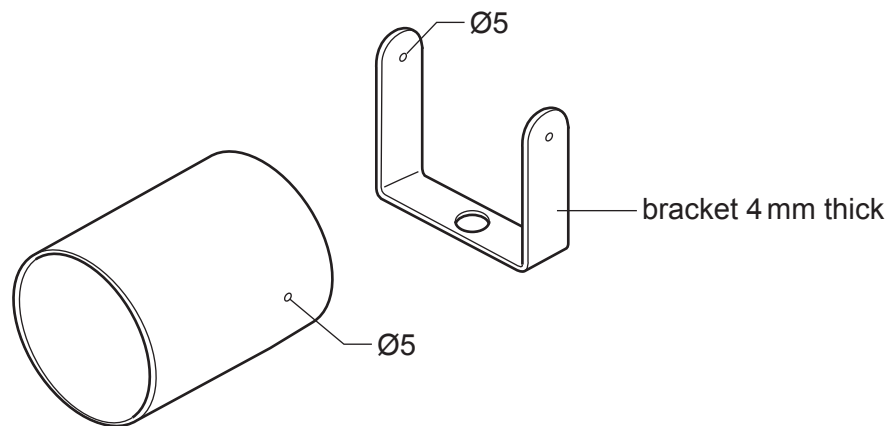

Fig. 13.5
- (e) Fig. 13.5 shows details of the lampshade and the bracket. The lampshade will be joined to the bracket by means of fittings that will go through the Ø5 holes drilled in the lampshade and bracket.